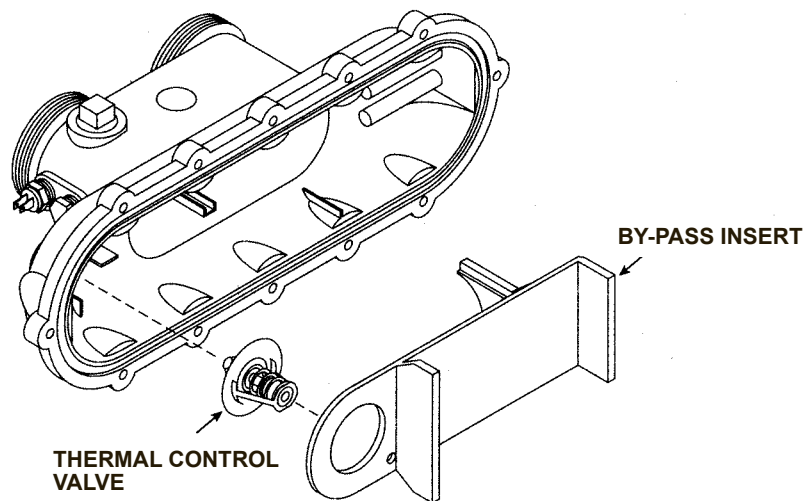

Figure 55: Thermal Control Valve
13. Test the thermal control valve by placing it into a hot water bath (above 108°F) and watching for movement that compresses the spring and opens the annular area in the center of the valve. If this action does not take place, replace the valve with a new one that has been tested as above. See Figure 55.